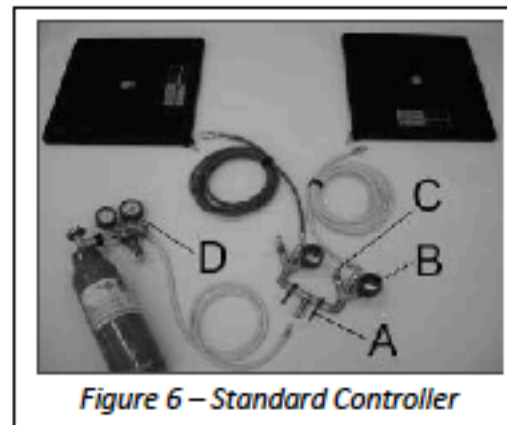

Figure 6 – Standard Controller
5.2.4 Inflate the air bags by opening the ball valve (A) on the controller (C) (see Figure 6).